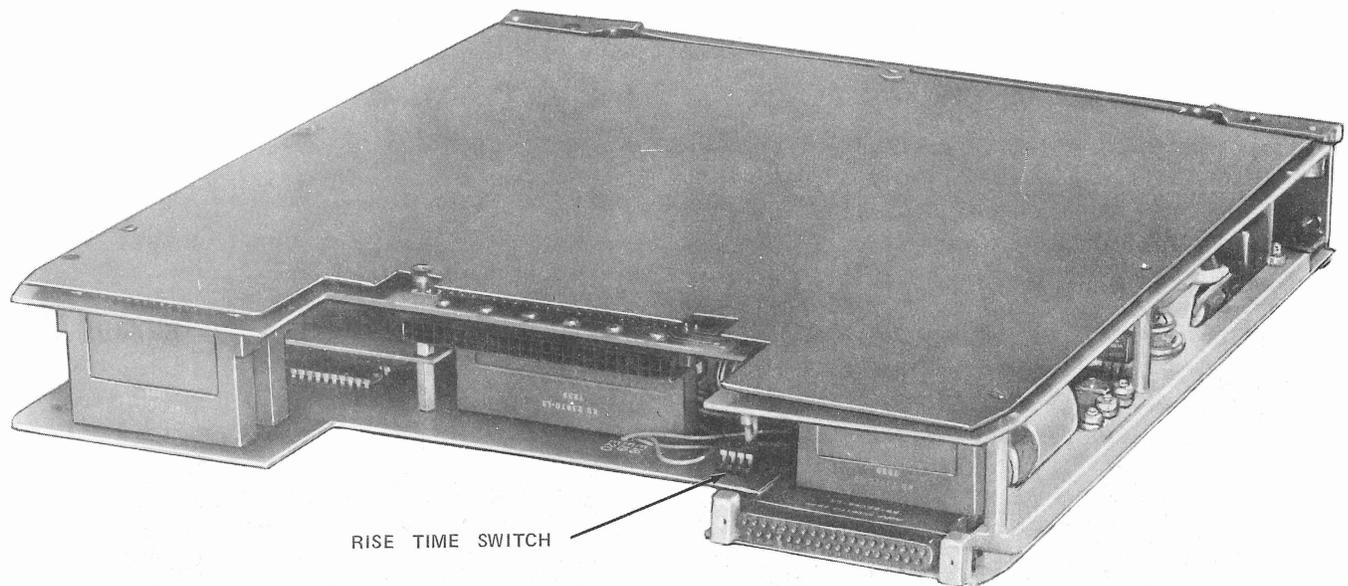

Fig. 6—Rise Time Switch on Data Set 2024-L1 or 2048-L1
**2.06** Select data set rise time by setting 4-position rise time switch to either fast (open) or slow (closed) to correspond with service order according to the label next to the switch. Refer to Fig. 6 for rise time switch on 2024 or 2048-type data set. Refer to Fig. 7 for the four rise time switches on 2096-type data set, one for each port. The switch is closed when the rocker is down on the side adjacent to the numbers and open when down on the side opposite the numbers. For RS-449 interface the switch must be in closed position, and in open position for RS-232 interface.